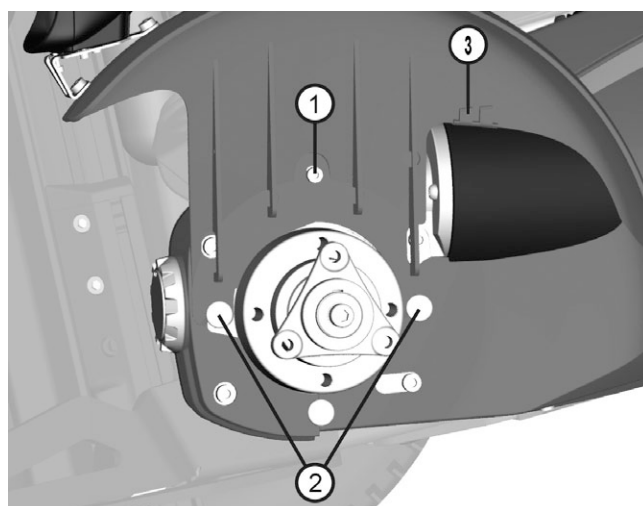

Figure 16. The front fender is fitted with one screw (1) and two fixing points (2) at the bottom.
In fig. 16 the wheelchair is shown without the drive wheel to get a better view of the front fender. However, the drive wheel do NOT need to be removed for this operation.
2. Rotate the drive wheel in question to get access to the screw (1) holding the front fender. See fig. 16.